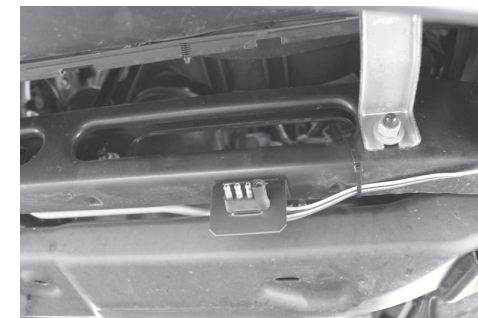

Figure 7
13. Locate the front frame rail that goes across the front of the vehicle. Locate a suitable position to mount the 4-Flat bracket shown in **Figure 7**. Using the bracket as a template mark the two holes and drill two 3/32" holes and attach the bracket using the two remaining screws.